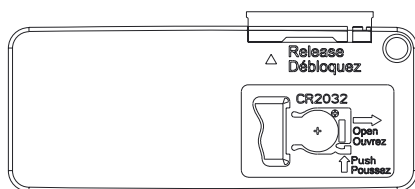

Fig. 1
2. Use the remote to control the effect. (Fig.1)